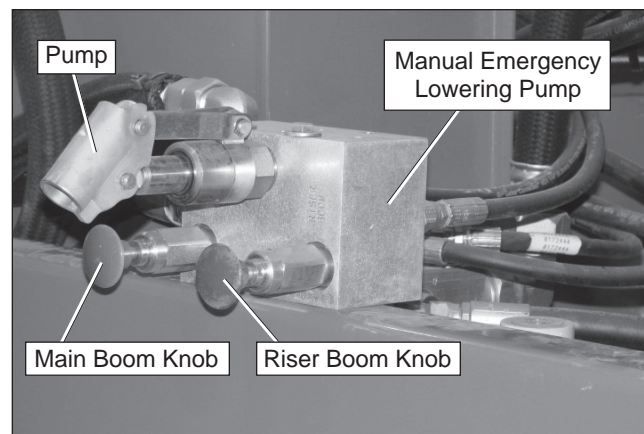

Figure 10.5 – Behind Left Cowling Door
1. The pump handle is mounted next to the Operator's Manual holder. Insert the handle into the pump (refer to Figure 10.5).